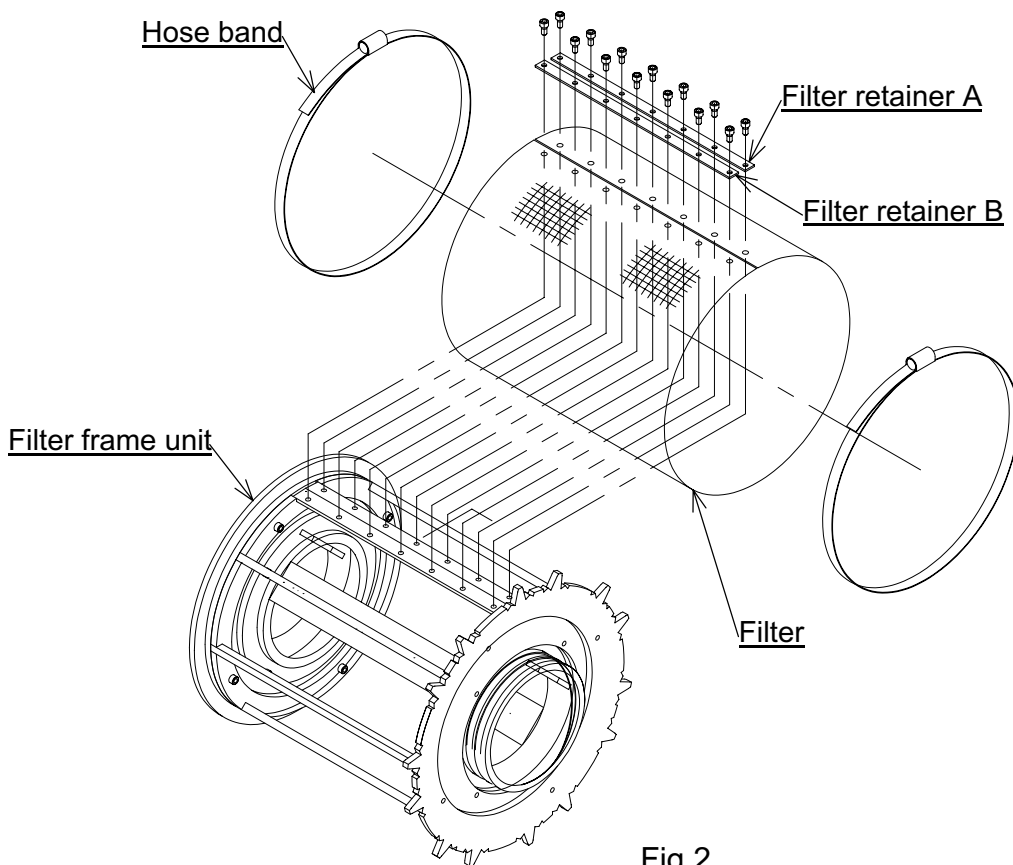

Fig.2
11.1.4.1 Filter change procedure (Fig. 2.)